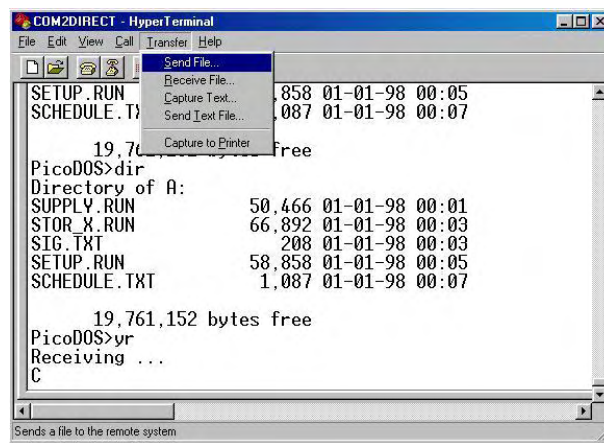

Figure 40 - HyperTerminal – Sending a file to STOR-X
10. On the HyperTerminal menu bar, select **Transfer, Send File**, Figure 40.